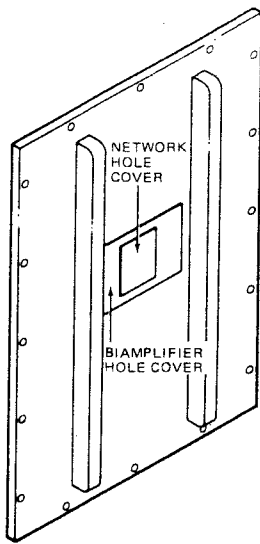
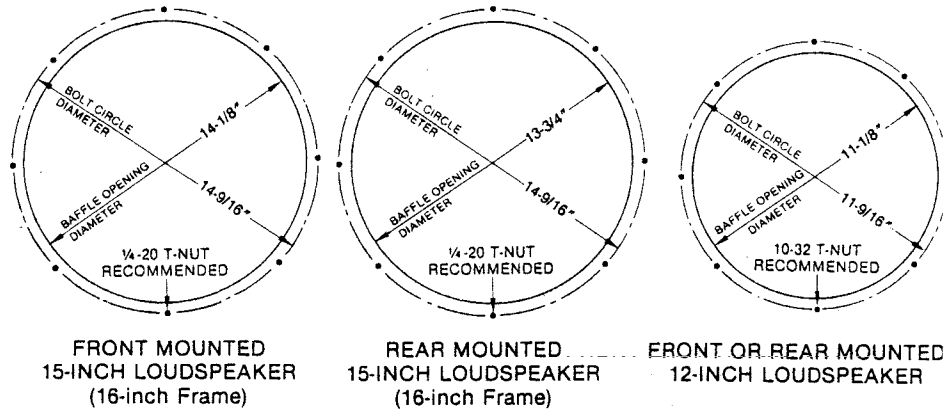
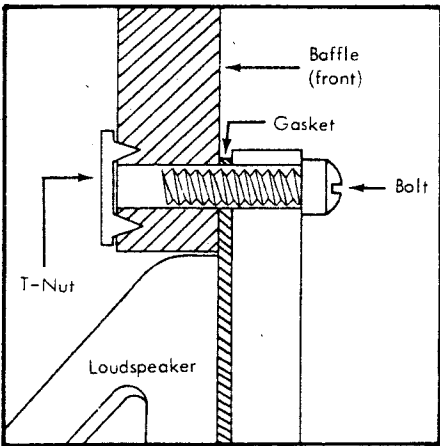

Figure 2. Rear Panel with Covers
Figure 1. Mounting Parameters for 12-inch and 16-inch Loudspeakers
Figure 3. Front Mounted Loudspeaker
- Rear access panel has dual cover panel (see Figure 2). Smaller panel covers hole for mounting network; larger panel covers hole for mounting biampifier. Remove network hole cover and store for later potential use. Retain four 8-32 x 1" oval-head machine screws used to secure cover.
Figure 1 shows dimensions necessary to mount ALTEC loudspeakers used with applicable crossover networks. Figure 2 shows the mounting dimensions for networks.
Networks are installed with T-nuts and bolts to a surface having a cutout of dimensions shown in Figure 2. Use the template given at the end of these instructions to facilitate installation. Fix the template to the surface where the network is to be mounted. Use a
Low frequency loudspeakers are installed with T-nuts and bolts to a baffle having a cutout and mounting bolt pattern appropriate for the loudspeaker (see Figure 1). Several models of loudspeakers may be front or rear mounted as shown in Figures 3 and 4. For loudspeakers weighing more than 10 pounds, a baffle of 3/4-inch plywood free from voids is recommended. To install the loudspeakers, use the following procedure:
1. Locate and scribe circles for the speaker hole and the mounting bolts according to the particular speaker (see Figure 1). Cut out smaller (speaker hole) circle; a suggested method is to make the cut very slightly undersize and use a wood rasp or file to finish edge to exact size.
5. Insert all T-nuts in mounting holes according to front or rear loudspeaker mounting option (see Figures 3 and 4). Gently hammer each T-nut in place until T-nut faces are flush with baffle surface.
6. Install the loudspeaker (per Figure 3 or 4) in the mounting hole. Secure the loudspeaker to all T-nuts with appropriate sized bolts.